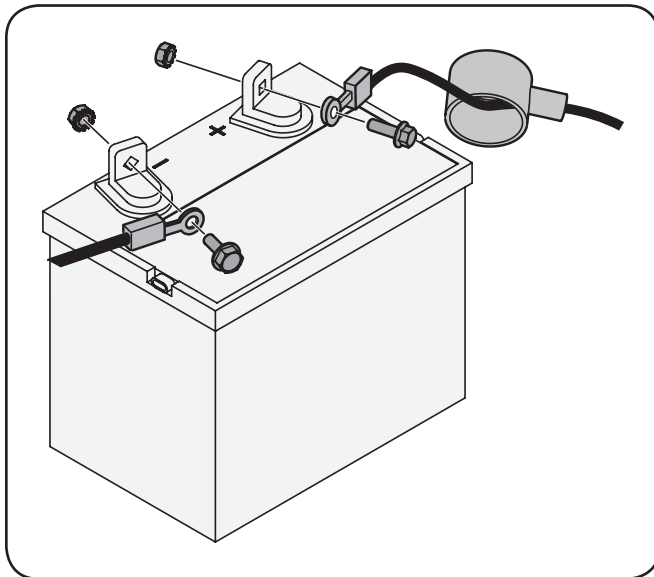

Figure 3-10
1. Remove the plastic cover, if present, from the positive battery terminal and attach the red cable to the positive battery terminal (+) with the bolt and hex nut. See Fig. 3-10.
2. Remove the plastic cover, if present, from the negative battery terminal and attach the black cable to the negative battery terminal (-) with the bolt and hex nut. See Fig. 3-10.